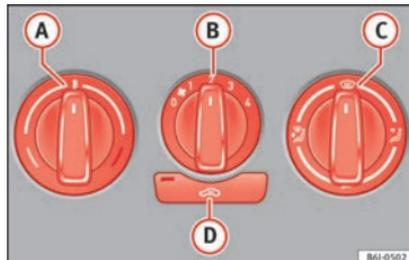

Fig. 153 Heating controls on the dash panel.
- Use turn controls ①, ② and ③» Fig. 153 to adjust the temperature, blower speed and air distribution.
- Press the ④ button to switch air recirculation mode on or off. When the function is activated, a warning light on the button is turned on.
- Press button ④» Fig. 153 and the lamp in the button will illuminate.
If the rotary switch **C** » Fig. 153 is in the thaw position, the recirculation flap will always be open and air will always enter from the outside.
- Turn the temperature selector » Fig. 153 **A** anticlockwise.
- Turn the temperature selector » Fig. 153 **A** clockwise to select the desired temperature.
- Turn the temperature selector » Fig. 153 **A** clockwise to reach the maximum temperature.
- Turn the temperature selector » Fig. 153 **A** to the heating area.